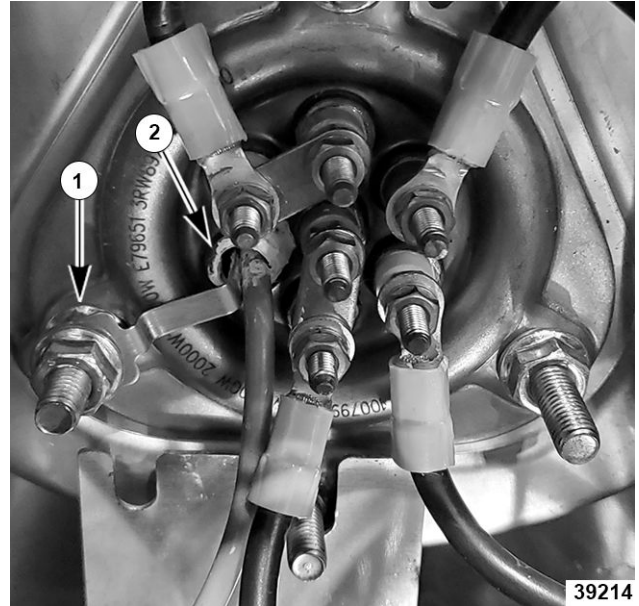

Fig. 40
7. Remove cover, disconnect thermistor wire at harness and remove thermistor (2, Fig. 40).